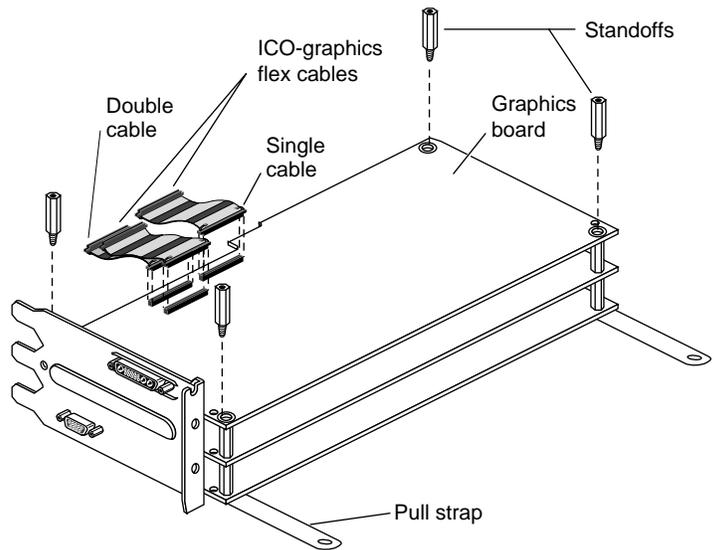

Figure 1-32 Removing the Flex Cables and Standoffs From the Graphics Board
7. Remove the standoffs from the top of the graphics board set. See Figure 1-32.